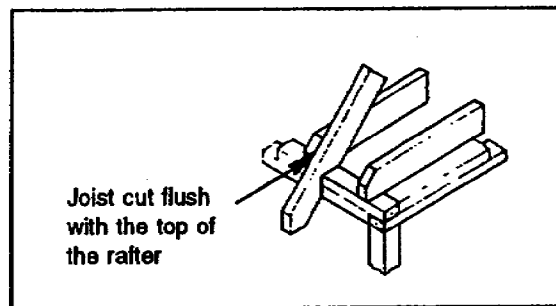

Figure 3-5. Ceiling joists
**3-5. Joists.** Ceiling joists form the framework of the ceiling of the room. They are usually lighter than floor joists but large enough to remain rigid. Ceiling joists are usually installed 16 or 24 inches on center, with the first ceiling joist placed on the outside edge of the top plate. The second joist is placed 16 inches on center lines from the outside edge of the first joist, and the remaining joists are placed 16 inches on the center lines continuing across the building. Extra joists, if needed, may be paced without affecting the spacing of the prime joists. Joists that lie beside rafters on a plate are cut at the same pitch as the rafter, flush with the top of the rafter (see Figure 3-5). The ceiling joists are nailed to both the top plates and the rafters (see Figure 3-6).